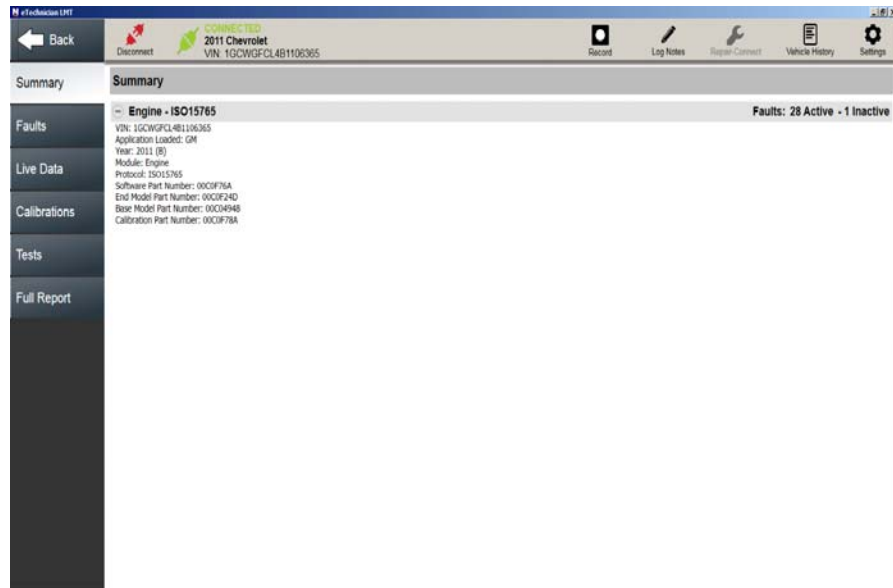

Figure 3.11 Summary Screen
- 3 The **Summary** screen is displayed. (Figure 3.11), and you are ready to begin your diagnostic session.
The **Summary** screen is displayed (Figure 3.11), and you are ready to begin your diagnostic session.
- 1 Click on the Live Data tab on the left side of the display (see Figure 3.11).